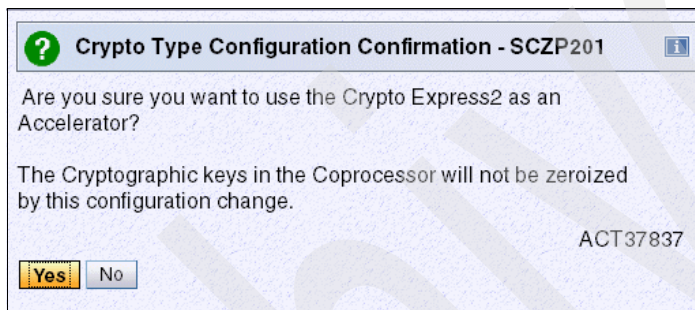

Figure 8-23 SE - Crypto Type Configuration Confirmation, message ACT37837
5. Click **Yes** when the confirmation dialog shown in Figure 8-23 is displayed.